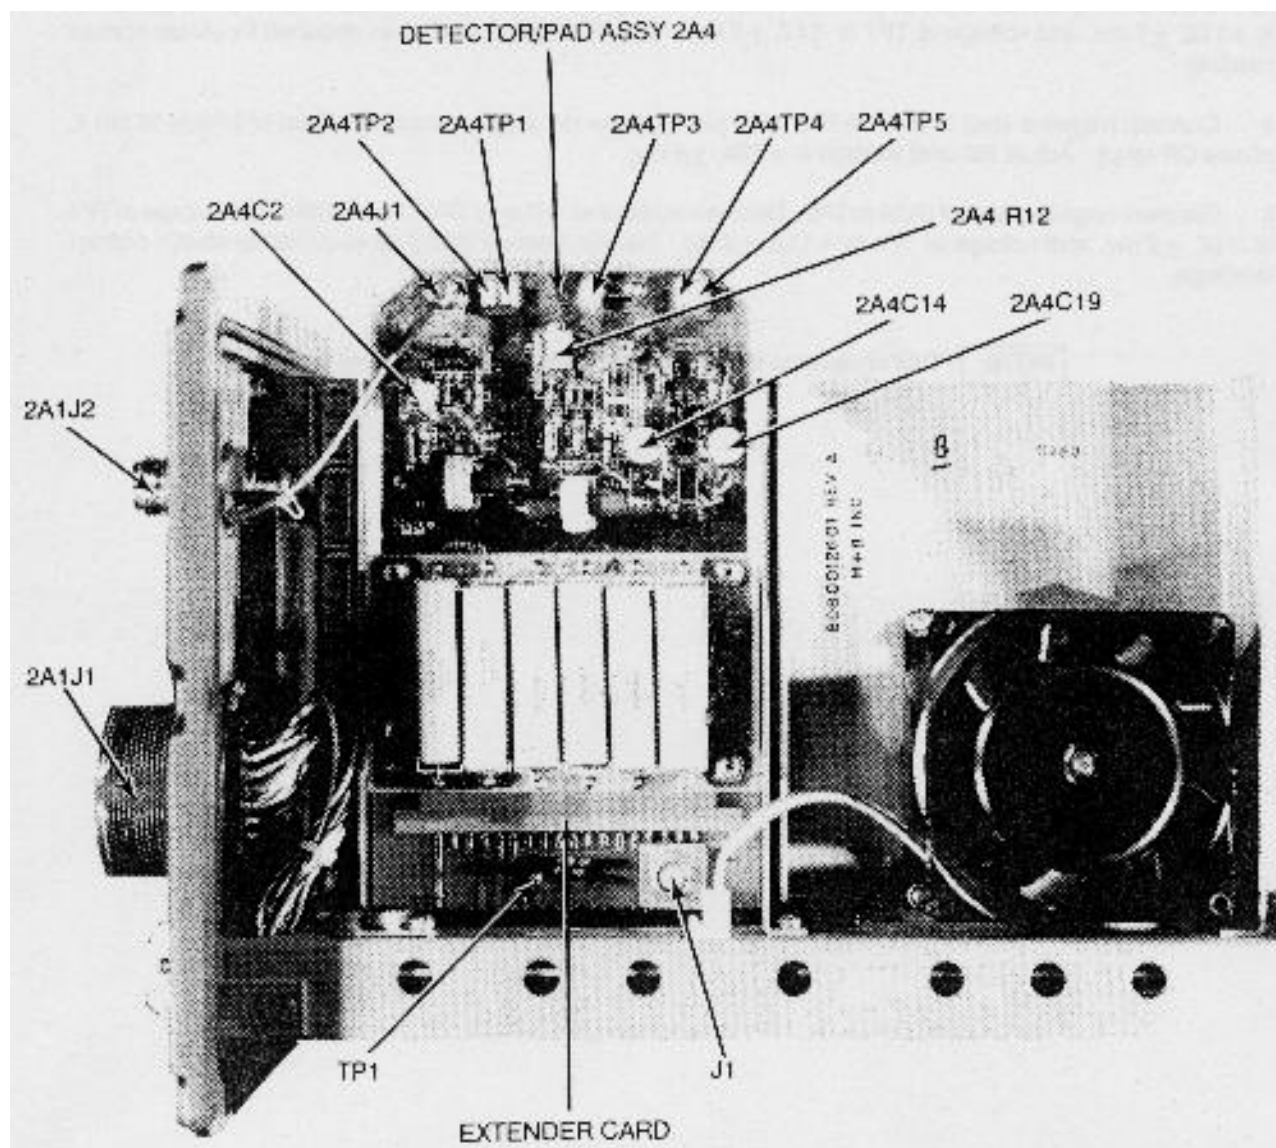

Figure 5.3 CU-9125 Detector/Pad (2A4) and Extender Card Test Points and Adjustment Locations.
Connect Transceiver, Antenna Coupler and Test Equipment as shown in Figure 5.4 Detector/Relay Pad Alignment Setup. Install Detector/Relay Pad Assembly (2A4) on card extender (Sunair P/N 8085165091). (See Figure 5.3).
**NOTE:** All measurements and adjustments are accomplished on the 2A4 board. See Figure 5.3 for Test Point and Adjustment Locations.
- c) Connect common lead of DVM to ground. Connect positive lead of DVM to TP4 (Reflected Power). Key the Transceiver with the microphone PTT key switch. AM power of 40 to 50 Watts will now be displayed on the two (2) Wattmeters. The DVM will display a positive voltage. Adjust C14 for .000 to +.050 VDC reading on DVM. Momentarily disconnect coax cable to the 50 ohm load. Observe on DVM a positive change to 3.0 VDC or higher. If not, detector is not working and needs troubleshooting and repair. Reconnect cable to load. DVM should return to adjusted reading, unkey Transceiver.
- d) Connect common lead of DVM to TP2 (+5 VDC Reference) and connect positive lead to TP1 (Magnitude Detector). Key Transceiver with microphone PTT key switch. AM power of 40 to 50 Watts will be displayed on the two (2) Wattmeters. Adjust C2 for .000 to .050 VDC reading on DVM. Momentarily disconnect coax cable to the 50 ohm load. Observe DVM, a change should be seen. If not, the detector is not working and should be troubleshot and repaired. Reconnect cable to load. DVM will return to adjusted reading, unkey Transceiver.
- e) Leave common lead of DVM connected to TP2 (+5 VDC Reference) and move positive lead to TP3 (Phase Detector). Key Transceiver with microphone PTT key switch. AM power of 40 to 50 Watts will be displayed on the two (2) Wattmeters. Note the DVM reading at 29.90000 MHz. Step in MHz increments to 1.60500 MHz, noting the DVM reading at each step, to get the maximum positive and negative voltage reading. Adjust R12 as needed until maximum positive and negative voltage at TP3 are equal and the magnitude of the voltage does not exceed .050 VDC. Momentarily disconnect coax cable to 50 ohm load. A change in the DVM reading should be seen. If not, detector is not working and needs troubleshooting and repair. Reconnect cable to load. DVM should return to adjusted reading, unkey Transceiver.
- f) Reverse coax cable connections at 2A1J2 and J1 on extender card; this will send the RF in reverse through 2A4 circuitry. Connect common lead of DVM to ground and connect positive lead to TP5 (RF Detector FWD). Key the Transceiver with microphone PTT key switch. AM power of 40 to 50 Watts will be shown on the two (2) Thruline Wattmeters. The DVM will display a positive voltage. Adjust C19 for .000 to +.050 VDC. Momentarily disconnect coax cable to 50 ohm load. Observe on DVM a positive change to 2.0 VDC or higher. If not, detector is not working and needs troubleshooting and repair. Reconnect cable to load. DVM will return to adjusted reading, unkey Transceiver and turn off. Remove card extender and reinstall 2A4.